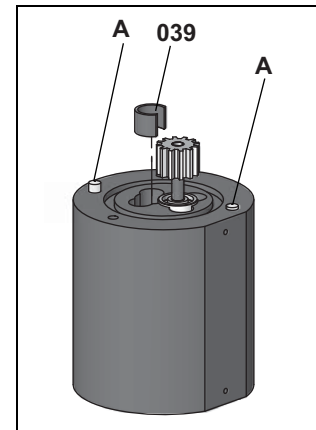

Fig. 6
- Push the screw set into the measuring housing **128**, paying attention to the configuration. Slide the distance sleeve **039** into the hole of the small measuring screw **672.2**, see Fig. 6, page 30.